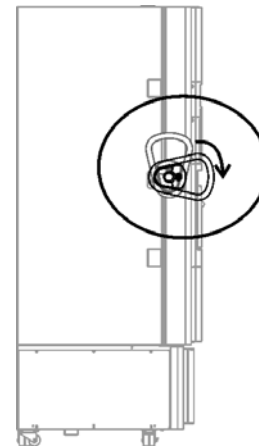

Figure 4-1
1. Unlatch the handle of the freezer (figure 4-1).